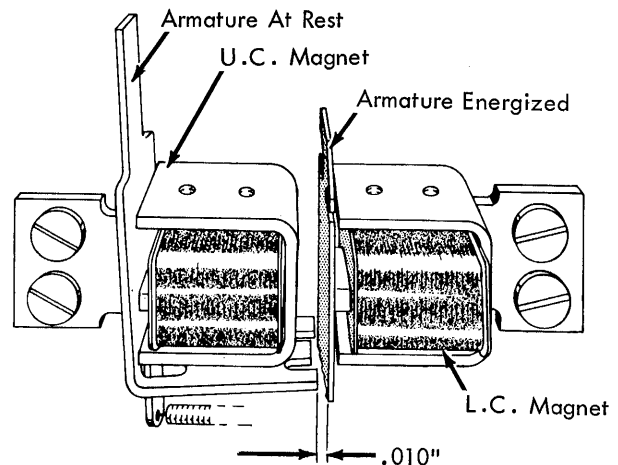

FIGURE 77. LC Magnet Assembly (Front to Rear)
- a. Front to Rear - LC armature (energized) clears the UC armature (at rest) by .010" (Fig. 77).